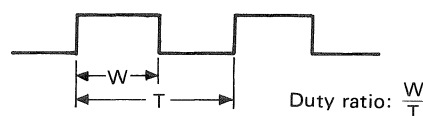

Fig. 20 Duty Ratio
*Duty ratio: In a pulse system, the ratio of average to peak power. Refer to Fig. 20.